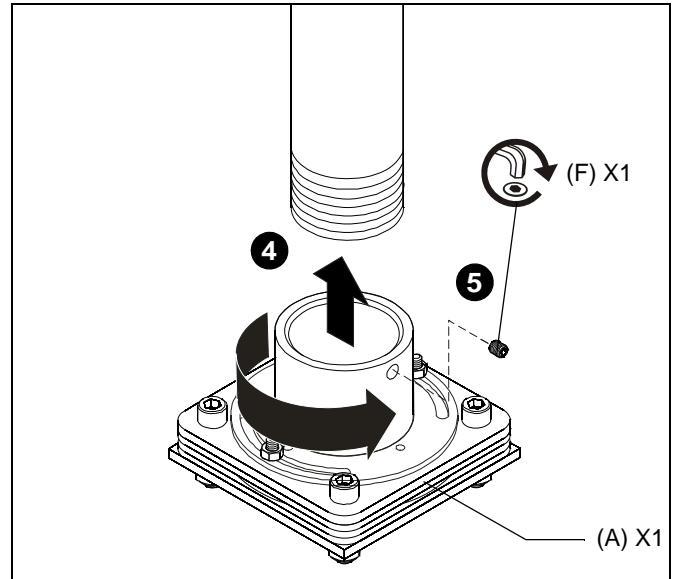

Figure 2
4. Thread Swivel Adapter (A) onto existing 1 ½" NPT pipe. (See Figure 2)
5. Secure Swivel Adapter (A) to 1 ½" NPT pipe using one Set Screw (F) and hex wrench. (See Figure 2)